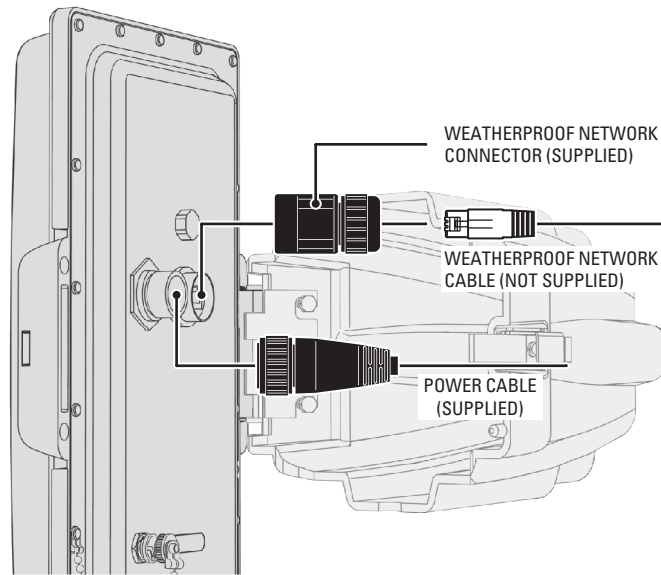

Figure 17. Connecting Cables to the EW5001
10. Connect all cables (refer to Figure 17):